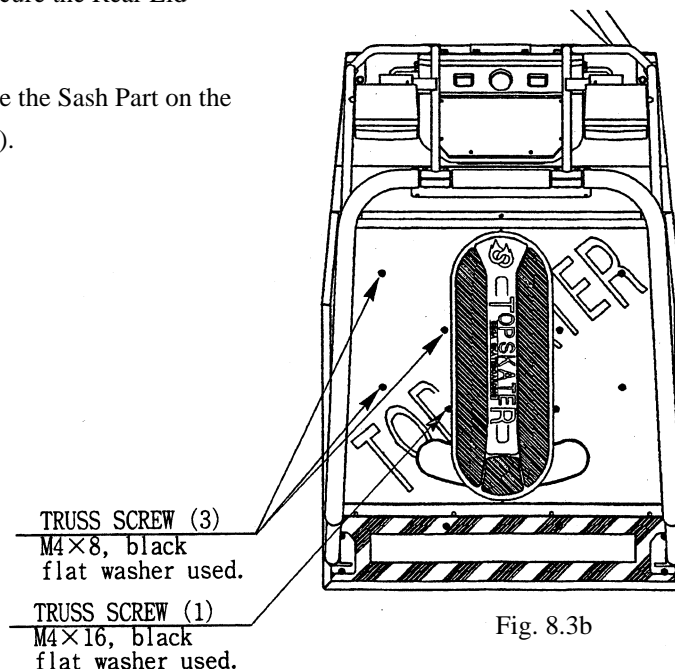

Fig. 8.3b
- ① Take out the 4 screws which secure the Rear Lid (Fig. 8.3b).
- ② Take out the 3 screws to remove the Sash Part on the side to be removed (photo 8.3d).